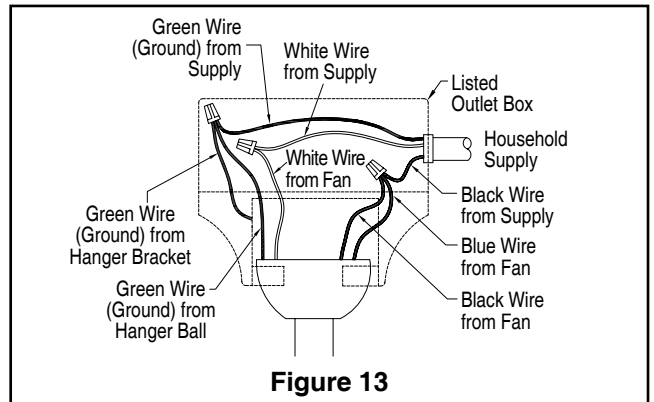

Figure 13
3. After splicing and making the wire connections, the wires should be spread apart and turned upward with the grounded conductor and the equipment-grounding conductor on one side of the outlet box and the ungrounded conductor on the other side of the outlet box. (Figure 13)